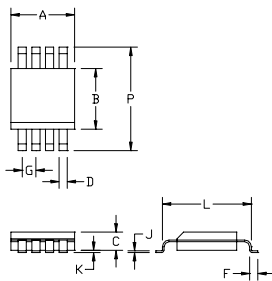

**Figure 1**
- Peak Pulse Power: 500 watts (8/20  $\mu$ s, Figure 1)